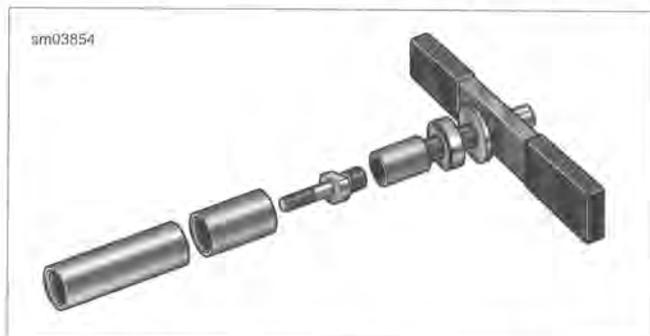

Figure 3-130. Sprocket Shaft Bearing Installer
4. See Figure 3-130. Obtain the SPROCKET SHAFT BEARING INSTALLER (Part No. HD-97225-55C). Assemble tool as described below.